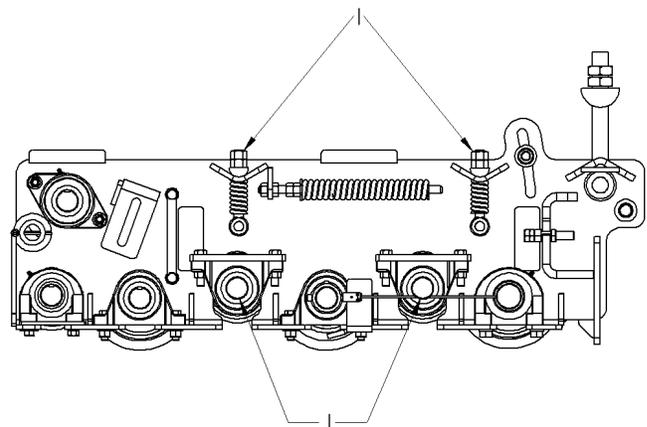

Figure 7-23: Grabroll height Adjustment
3. To adjust smooth grabrolls (J), shown in figure 7-23, up or down, use eye bolts (I). Amity recommends adjusting in $\frac{1}{4}$ " increments.